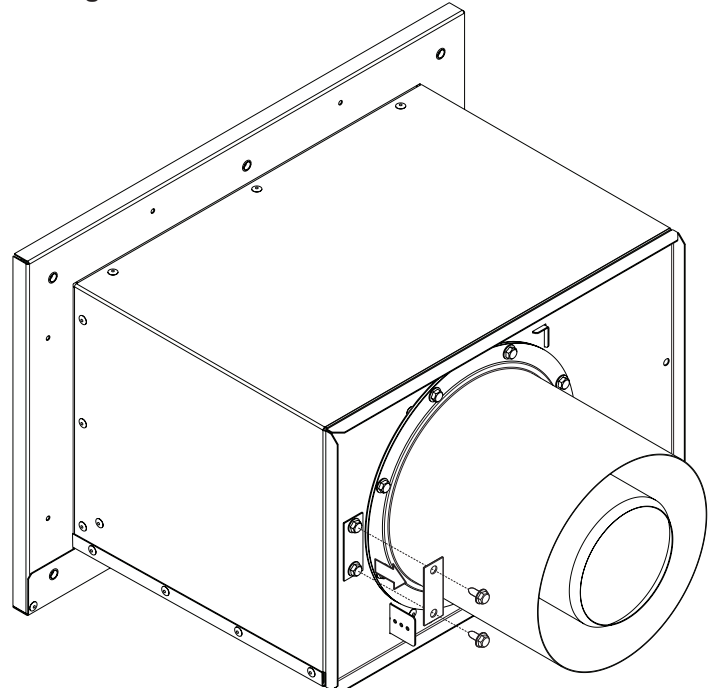

Figure 28
- Remove the cover from the rear side of the unit by removing the 2 #10 X 1/2 inch screws shown in **Figure 28**.